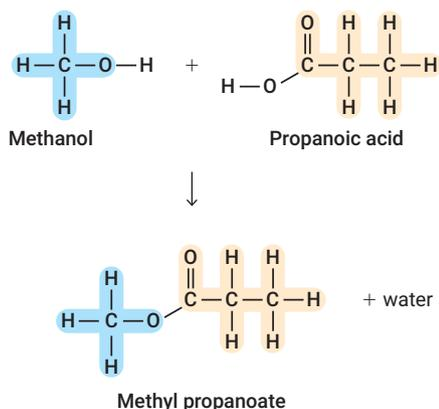

FIGURE 12.3.9 The formation of methyl propanoate, showing the origin of the name
- The second part of the name comes from the carboxylic acid. The end of the acid name is changed from *-oic acid* to *-oate*. (**Figure 12.3.9**).